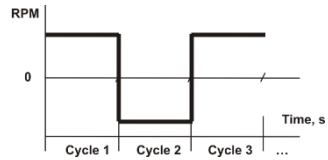

Figure 4.
**MM-1000** is programmed to change the direction of rotation when the motion timer is restarted, i.e. if the rotation time is set to 30 s, then the direction is changed every 30 s as shown on figure 4, where positive RPM is clockwise motion and negative - counter clockwise.